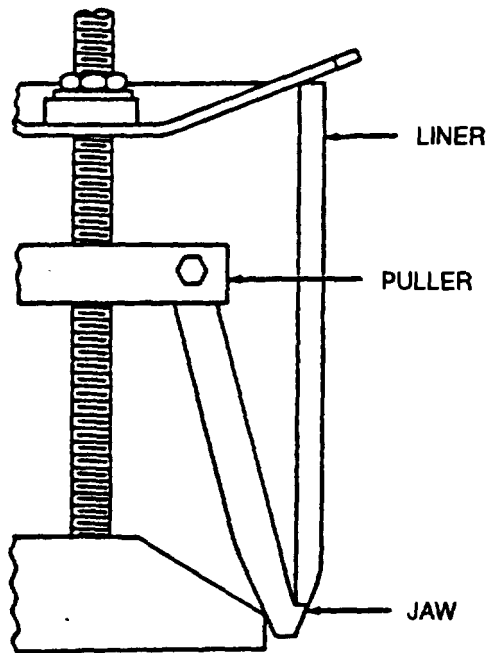

FIGURE 3-125. Use of Cylinder Liner Puller
- d. Pull liners (9) out of engine block using suitable puller or tap liners out of engine block using a suitable wooden block and hammer. Be sure that jaw of puller is correctly positioned before attempting to remove liner, refer to FIGURE 3-125.